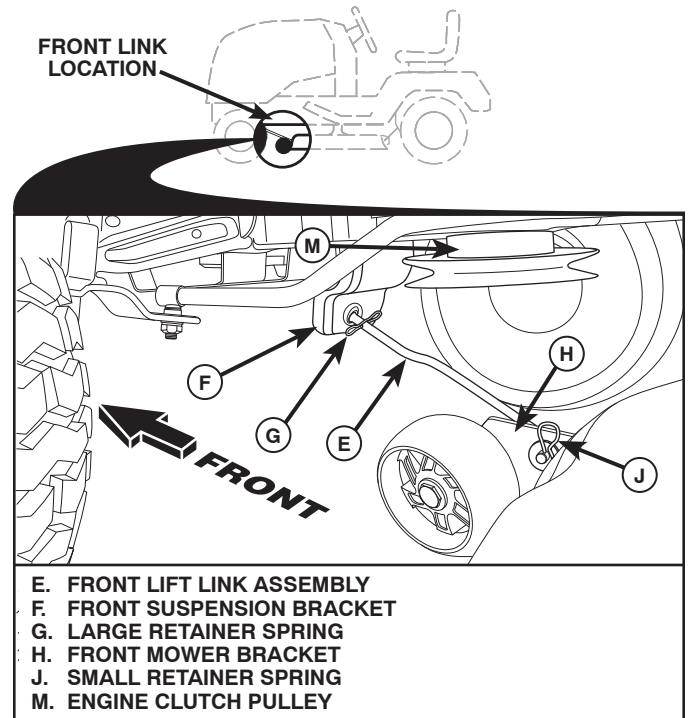

Fig. 31
8 ATTACH FRONT LINK (E) (See Fig. 31)
- From front of tractor, insert rod end of front link (E) through front hole in tractor front suspension bracket (F).
- Move to left side of mower and and insert large retainer spring (G) through hole in front link (E) behind front suspension bracket (F).
- Insert other end of link (E) into hole in front mower bracket (H) and secure with washer and small retainer spring (J).